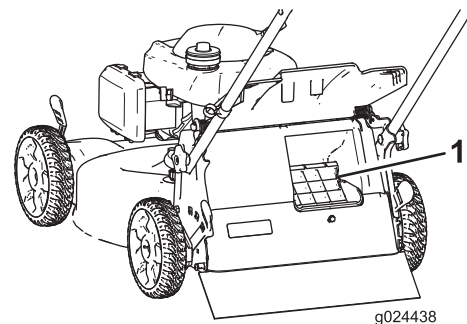

Figure 18
**Important:** For proper operation, remove any grass clippings and debris from the bag-on-demand door and the surrounding opening (Figure 18) before you move the bag-on-demand lever from one position to another.